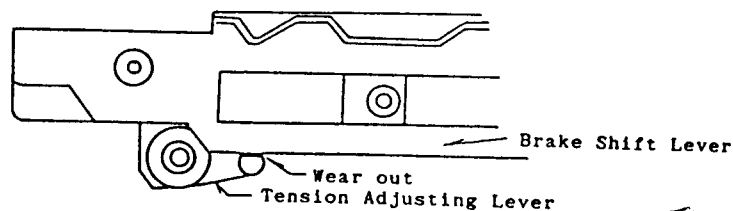

Fig.1
**Cause:** The synchronisation of the threading car 76, the brake shifter 34 and the tape tension stabilizer 70 is lost due to excessive wear of the tension adjusting lever 51. (see fig.1)